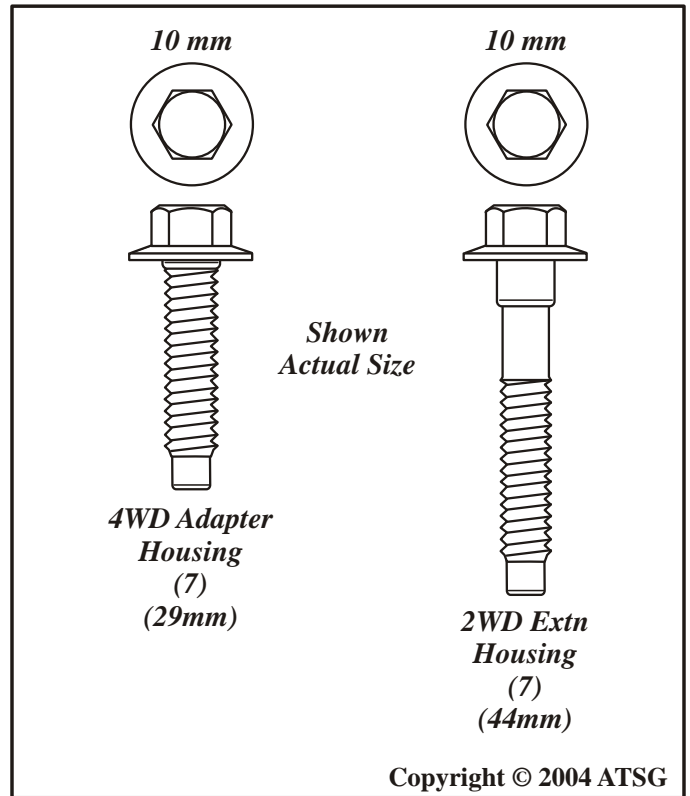

Figure 180
**Note: The extension housing bolts for the 2WD version are longer than the 4WD adapter housing bolts (See Figure 180).**